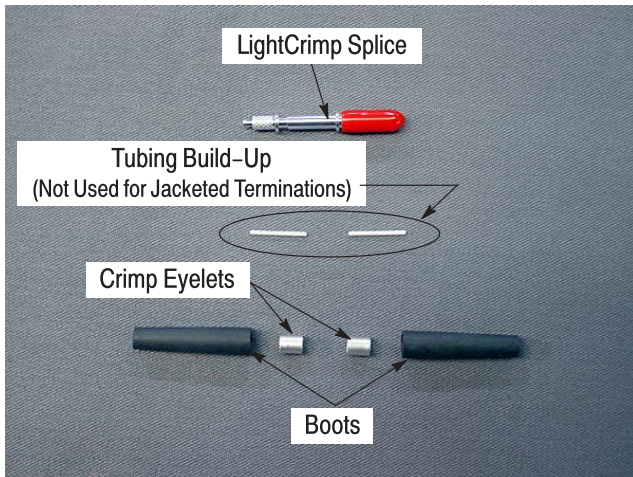

Figure 58
3. Identify the components. See Figure 58.